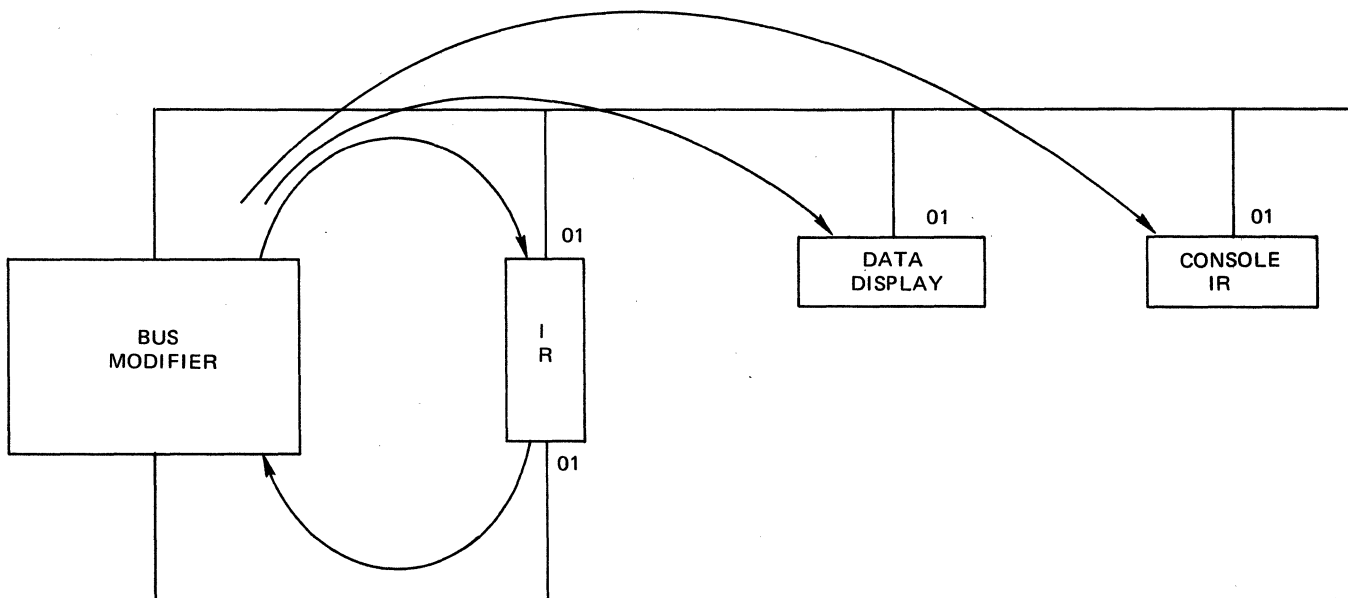

Figure 5-14 Display Device 01
8.	To verify these conditions set the DEVICE SELECT switch to 01 and depress the DISP key. The action in Figure 5-14 occurs.